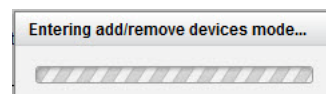

FIG. 27 Entering Add/Remove Devices Mode
1. In the *Add Devices* page, click the **Add/Remove Devices** button to enter the Add/Remove Devices Mode (FIG. 27).